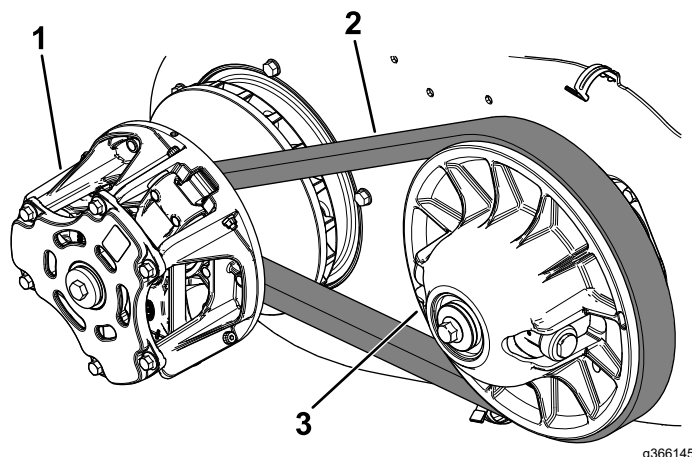

Figure 130
6. Rotate and inspect the belt (Figure 130) for signs of excessive wear or damage.
7. Using compressed air, clean the clutches thoroughly of all debris (Figure 130).
6. Pull up on the top of the belt to spread out the secondary clutch, then rotate and route the belt over the secondary clutch (Figure 130).
7. Remove the belt from the primary clutch (Figure 130).
8. Align the new belt over the primary clutch (Figure 130).
9. Rotate and route the belt over the secondary clutch (Figure 130).